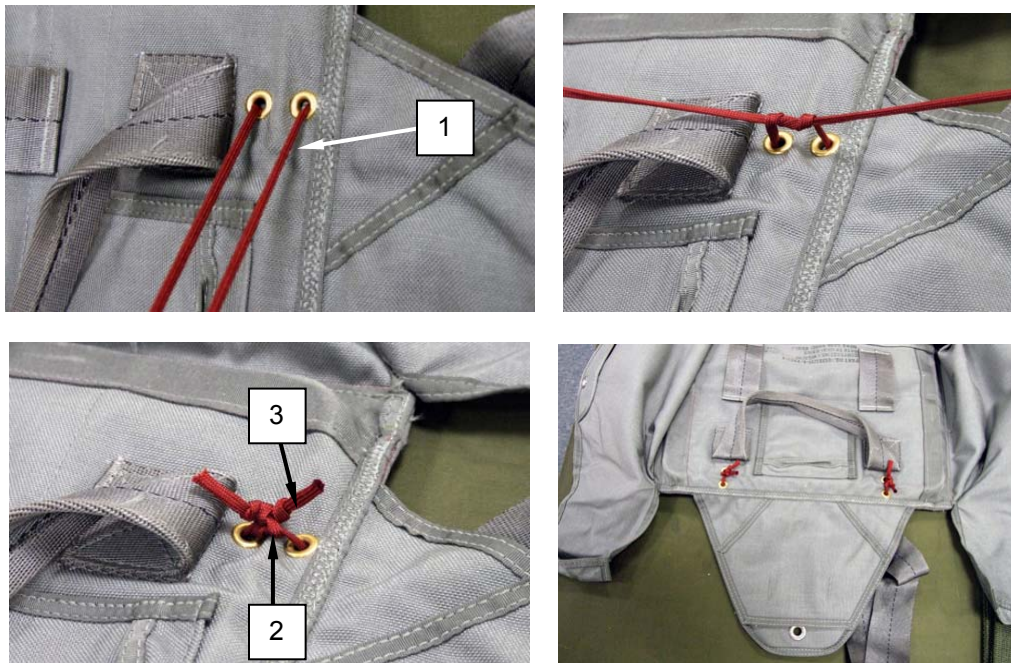

Figure 64. Securing the Spreader Bar onto the Back Side of Pack Tray.
5. Secure the spreader bar on the back side of the pack tray by tying Type III nylon cord (Red) (Figure 64, Item 1) using a surgeons knot with locking knot (Figure 64, Item 2) with a locking knot (Figure 64, Item 3) in the running ends. Trim the running ends to 1 inch.